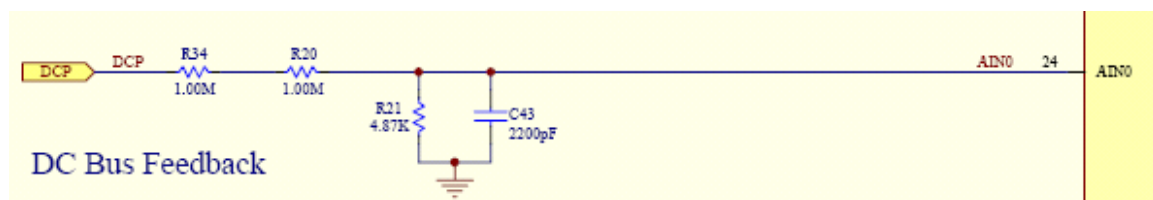

Figure 55—DC Bus feedback voltage divider
**DC Bus feedback Scaling**—This MCEWizard input is the internal scaling of the DC bus in cts/V. The DC bus is sensed at AIN0 through a voltage divider. To calculate the proper value for this cell, one needs to know that 1.2V input at AIN0 is equal to 4095 digital counts. As an example, for the DC Bus feedback circuit shown in Figure 55, the value for the DC bus feedback scaling is calculated as follows: